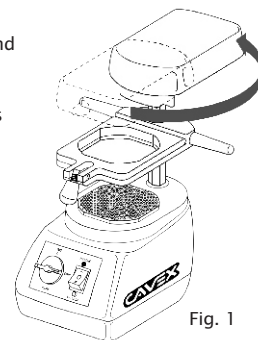

Fig. 1
1. Swivel the heating element to the rear and press the Heating switch (fig. 1).